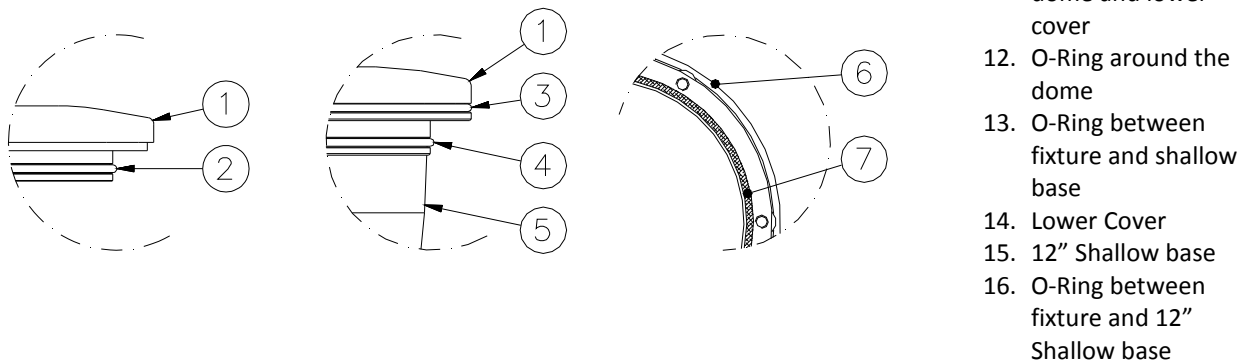

Figure 26– Fixture Gaskets
- O-Ring between dome and lower cover (Figure 26 - n°2);
- O-Ring around the dome (Figure 26 - n°3);
- O-Ring between fixture and 8” shallow base (Figure 26 - n°4);
- O-Ring between fixture and 12” shallow base (Figure 26 - n°7);